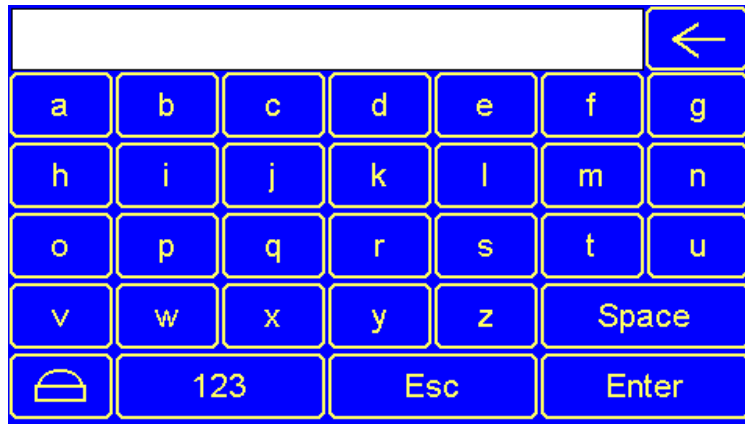

Figure 14.3-ASCII Keypad
When editing an ASCII value, an ASCII keypad is displayed as shown Figure 14.3. The ASCII keypad has three (3) modes, numeric, symbols, and alpha. In Alpha mode, the Caps Lock button may be pressed to access capital letters. When you first enter this editor, typing a character will overwrite the entire old string and start a new entry. You may press the backspace arrow to delete the previous character. Pressing Enter will save the entry, filling any unused space beyond the last character entered with NULL characters. Pressing ESC will cancel the edit and return the string to the previous value.